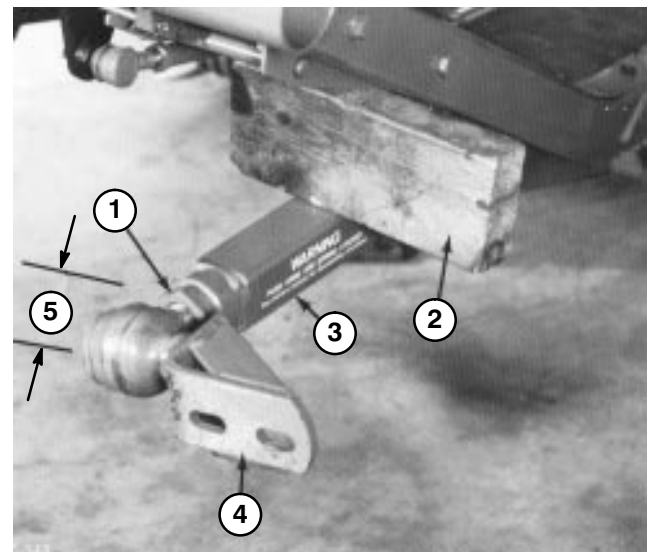

Figure 16
4. Have a helper push down on the left push arm. Then insert a 2 x 4 in. (51 x 102 mm) block of wood between the frame and top of the push arm (Fig. 16). Screw ball joint into left hand push arm until center of ball joint is 2-3/8 inches (60 mm) away from front of push arm (Fig.16). Do not tighten jam nut.